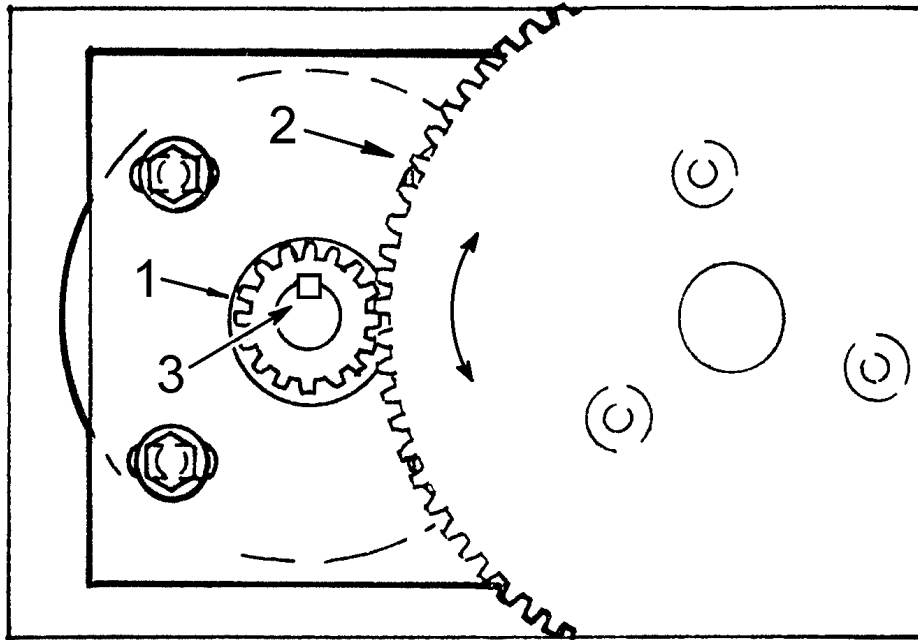

Fig 6.6 – Drive Gears Free Play
- c) With reference to Fig 6.6 above, hold the motor pinion (1) stationary and gently rotate the wheel. There should be a small amount of free play. (2mm at the circumference of the wheel).
- e) Check that the pinion (1) is securely fastened to the motor and that the square drive key (3) is not displaced. Check that the Delrin gear (2) is securely fastened to the wheel. Tighten if necessary.